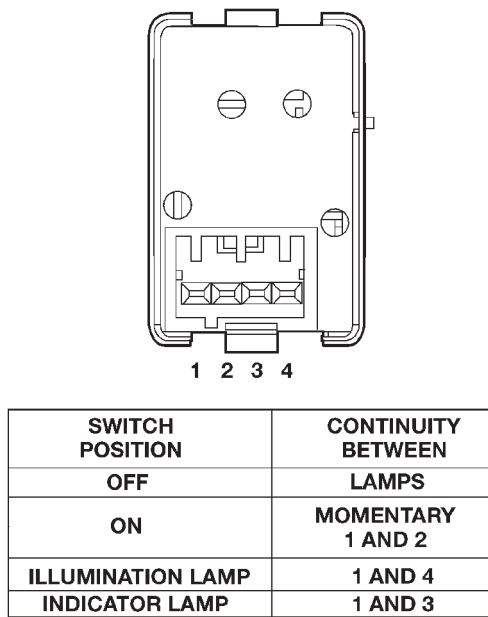

Fig. 2 Defogger Switch Continuity
(1) Disconnect and isolate the battery negative cable. Remove the accessory switch bezel from the instrument panel and unplug the defogger switch wire harness connector.
(2) Check for continuity between the ground circuit cavity of the defogger switch wire harness connector and a good ground. There should be continuity. If OK, go to Step 3. If not OK, repair the open circuit as required.
(3) Check for continuity between the ground circuit terminal and the rear window defogger switch sense circuit terminal on the back of the defogger switch housing (Fig. 2). There should be momentary continuity as the defogger switch button is depressed, and then no continuity. If OK, see the diagnosis for the Instrument Cluster in this group. If not OK, replace the faulty switch.